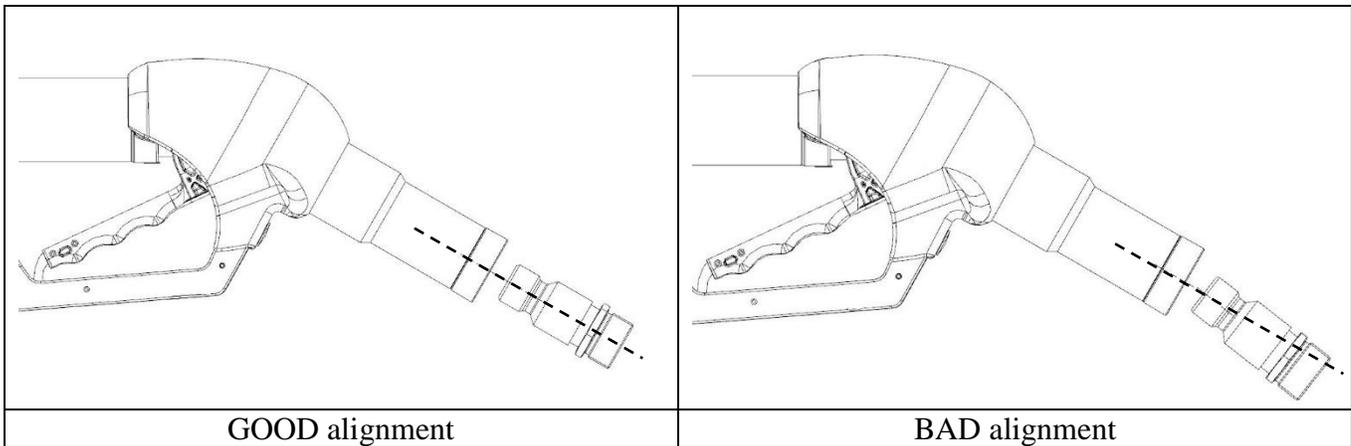

Figure 4: Proper receptacle alignment
NOTE: It is important to align the nozzle with the receptacle to ensure proper function. See Figure 4.
4. Lift nozzle lever to dis-engage latch, then release lever fully to uncouple the nozzle from the vehicle receptacle. An audible “CLICK” will be heard. See Figure 4. This stops the flow of gas and vents the nozzle.